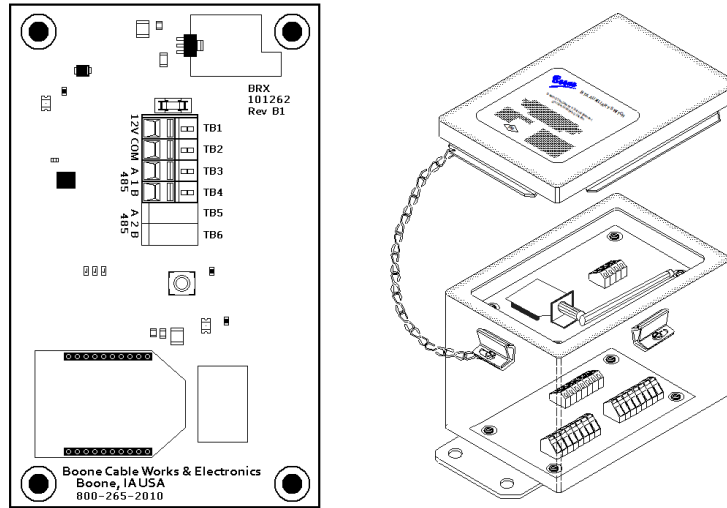

Figure 5. BRX board with BT8/BTX & BRX boards in enclosure (module).
**4.1.3. BRX Board:** This board is used for connecting the BT8/BTX module to a wireless Gateway. (See figure 5). There is a 4-terminal block which consists of a power input (12V DC and common) and a 485 output (A & B).